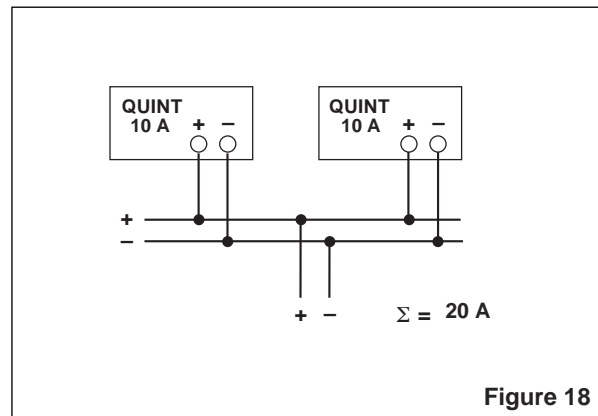

Figure 18
7.5. Power Increase (Figure 18)